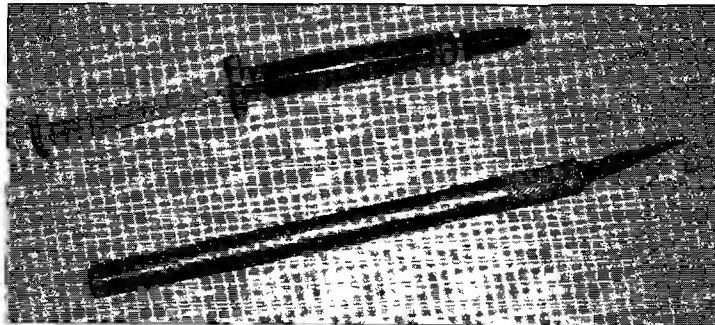

Figure 8-2: A tube of Chip Quik (top) and an X-ACTO knife (bottom)
A utility knife (also known as an X-ACTO knife) like the one in Figure 8-2 comes in handy for slicing small holes in adhesive labels (stickers) or for removing rubber pads, although you can use a razor blade too. For cutting plastic pieces or wires, I suggest a small pair of metal clippers.
When desoldering integrated circuit (IC) chips, I use a product called Chip Quik (www.chipquikinc.com). IC chips can be damaged easily by excessive heat. Chip Quik (Figure 8-2) makes it easier to remove a chip while keeping the temperature low.